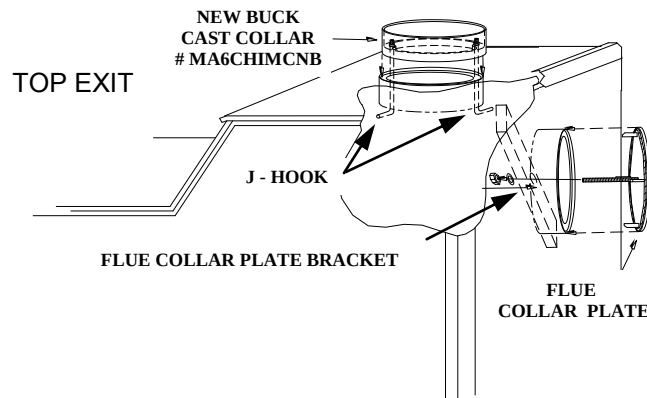

Figure 2.
7. Next fasten New Buck's Cast Collar part number MA6CHIMCNB to the flue exit of stove to be used, using the J hook's provided. Position collar with gasket towards the unit, tighten the J hook's **Firmly**. (See Figure 2).
8. Fasten New Buck's Flue Collar Plate to the exit not used for burning stove. Firmly secure the Flue Collar Plate Bracket with the nut and washer provided .(See Figure 2).